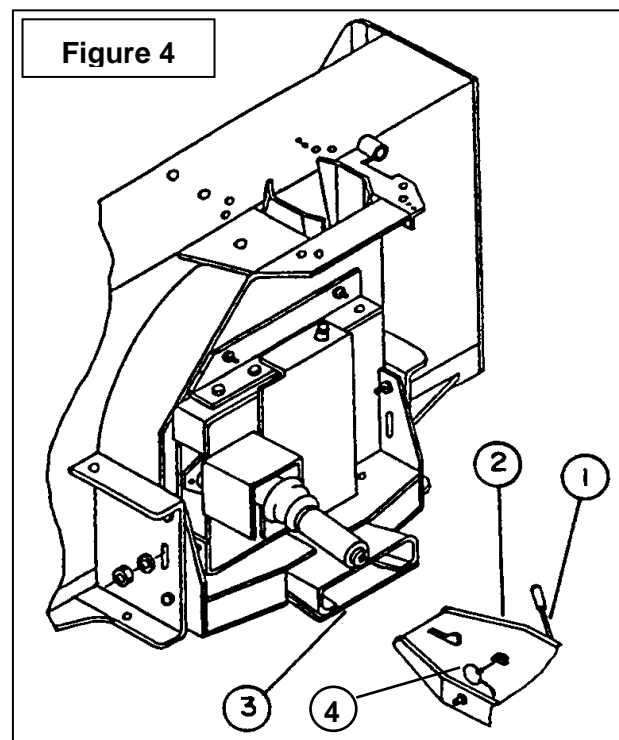

Figure 4
1. **Figure 4:** Move the quick hitch lever (item 1) rearward to the unlock position. Position tractor behind snowblower and raise front male quick hitch to approximately 3/4" from the ground.
2. **Figure 4:** Insert male quick hitch (item 2) into the snowblower female quick hitch (item 3). Raise male section so that it is parallel to female section and insert it all the way into female section. Raise snowblower and move the lever forward to lock position. Secure latch with linch pin.
Detaching Snowblower from Tractor **(Figure 4)**